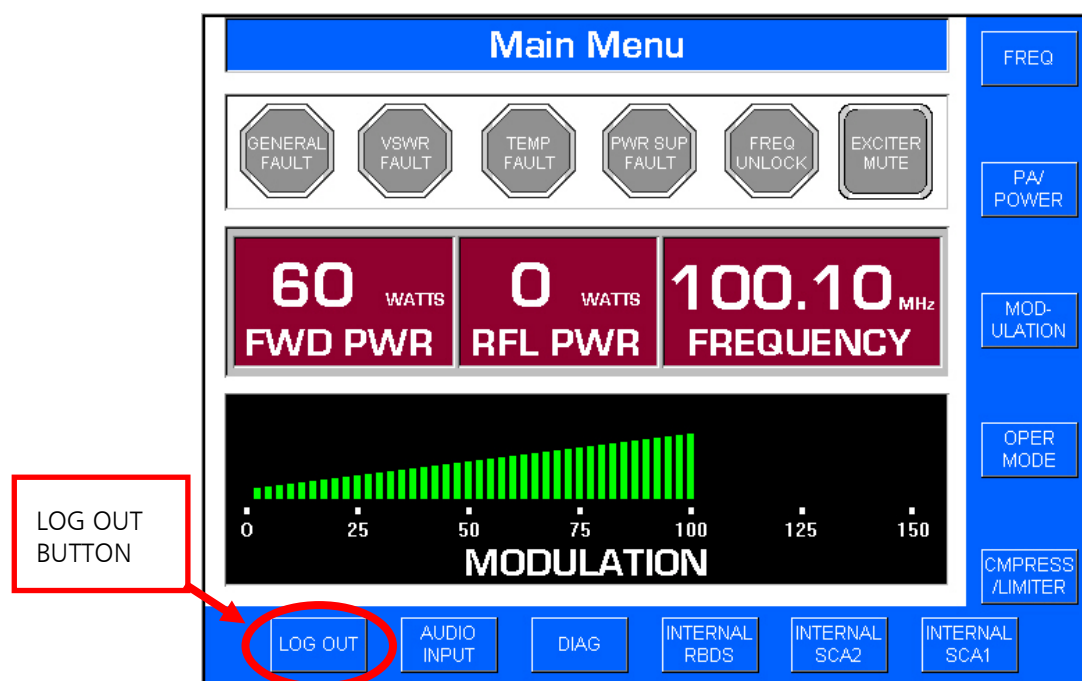

Figure 3-42. LOG OUT
Refer to Figure 3-42. The FXi can be used with several PA types. The PA/Power Menu provides a means of selecting the PA type (or stand alone) which will be used with the exciter. In order to use this feature you must know the PA type in which the exciter is to be located.
If manual log out operation is selected and password operation is enabled, the user will be required to log out. When the user logs in, the LOG IN button on the Main Menu will change to LOG OUT (refer to Figure 3-42). To log out, proceed as follows:
1. Depress LOG OUT. The Log Out Menu will appear (refer to Figure 3-42).